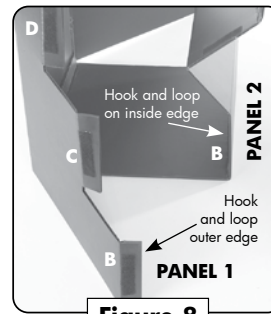

Figure 8
**8** Locate the bottom hook and loop covered outer edge on **PANEL 1** labeled B. Fold outer edge B towards the inside edge B of **PANEL 2**. The inside edge B of **PANEL 2** is also covered with hook and loop material. **See Figure 8.**
Locate the bottom hook and loop covered outer edge on **PANEL 1** labeled B. Fold outer edge B towards the inside edge B of **PANEL 2**. The inside edge B of **PANEL 2** is also covered with hook and loop material. **See Figure 8.**